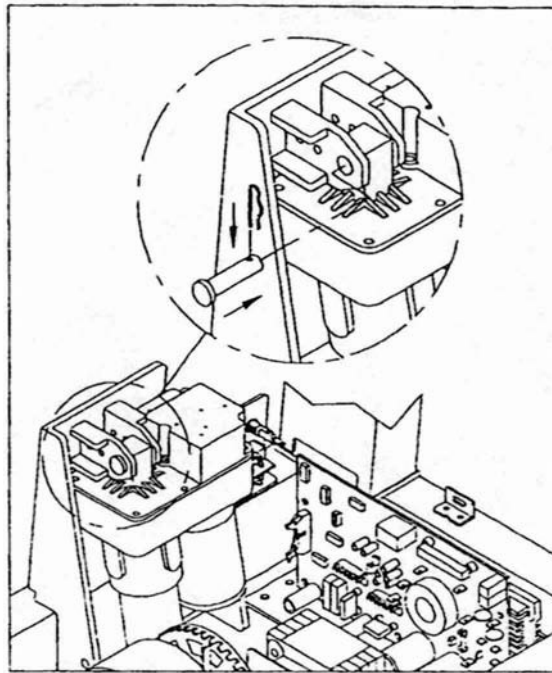

Fig.16
8. Insert the locking pin on the top base of elevation unit. Secure the pin in place with clip. (See Fig.16)
9. Insert the locking pin under the equipment. And secure the pin in place with clip. (See Fig.16)